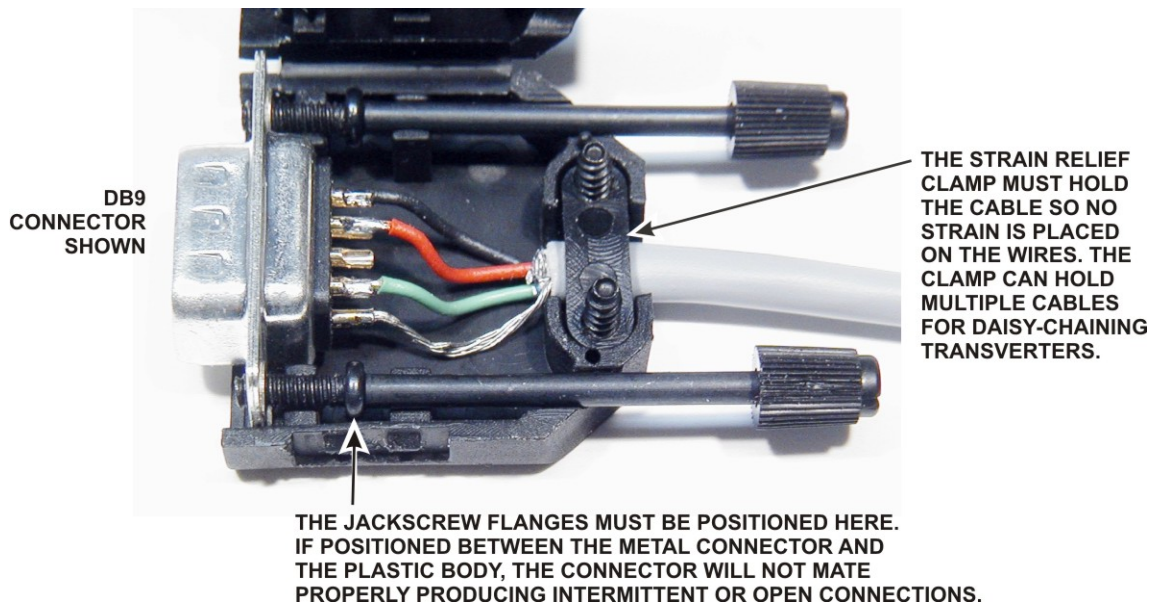

Figure 4. Installing Connector Shells.
- Attach the connector shells as shown in Figure 4.